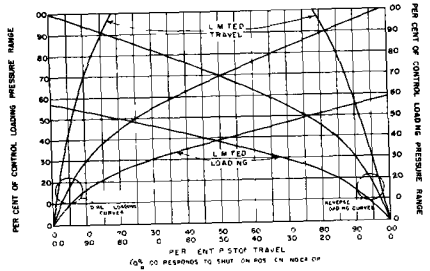

FIGURE 9 - Cam A, Square Root Relation
combination with the zero adjustment described above, full piston travel may be obtained for as small a pressure change as 10 psi -- e.g., a range of 10 to 20 psig.) Range adjustments available with each of the three Positioner cams furnished are shown in Figures 9, 10 and 11. This adjustment is of value when the device being regulated by the Drive is oversized, since the adjustment allows operation of the Drive thru its useful motion for the desired full change in control loading pressure. It is also useful in matching the loading vs. position characteristic of the Drive with those of related power devices in the same control system.
This adjustment involves selecting or shaping the proper positioning cam in order to obtain that characteristic of piston position vs. control loading pressure which will afford the desired characteristic of controlled medium vs. control loading pressure. Positioning cams A, B, and C are furnished with each Positioner (the B cam is shipped assembled in place and the A and C cams are attached inside Positioner case). The characteristics for which the cams are shaped are listed in Table 1 and are shown in Figures 9, 10 and 11. The figures show a family of curves for each cam, each curve representing a Range Adjustment when used with that specific cam. Table 2 shows pressure values of the various control loading ranges equivalent to the control loading per cent value in Figures 9, 10 and 11.
4. Select the positioning cam whose characteristic curve, shown in Figures 9, 10 and 11, most closely matches the loading vs. position characteristic determined in step 3.